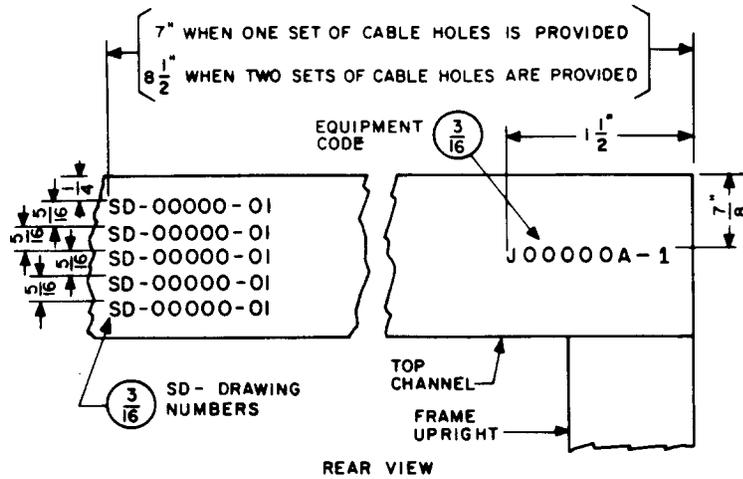

Fig. 1—Frame Equipment Code and SD- Drawing Numbers
- (h) To revise Fig. 1 to show SD- drawing number stamping.
- (h) Fig. 1, 2, 3, 21, 23, 35, and 36—revised
2.07 SD- circuit schematic drawing numbers shall be stamped on the rear face of the top cross channel with 3/16-inch characters in ascending numerical order reading from top down. On multibay and multiframe equipments, SD-drawing numbers shall be located on bay 0 only. (See Fig. 1.) The SD- drawing numbers associated with the equipped frame, except SD- drawing numbers stamped on miscellaneous equipment units, shall be specified on the drawing.